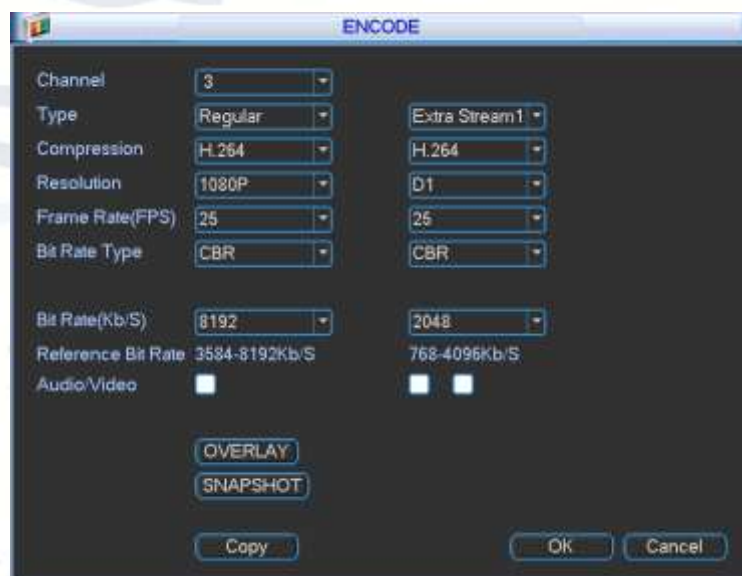
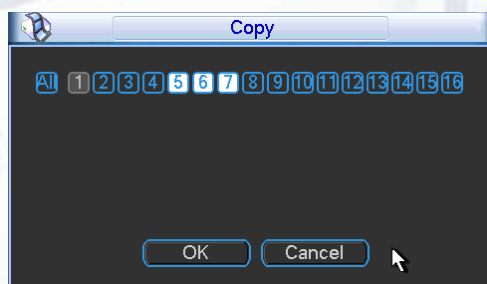

Figure 4-24
Figure 4-26
Encode setting includes the following items (See Figure 4-24).
- **Copy:** After you complete the setup, you can click the Copy button to copy current setup to other channel(s). You can see an interface box shown in Figure 4-26. If you look at the channel number in the small boxes you can see the current channel number is grey. Please check the number to select the channel or you can check the box ALL. Please click the OK button in Figure 4-26 and Figure 4-24 respectively to complete the setup.